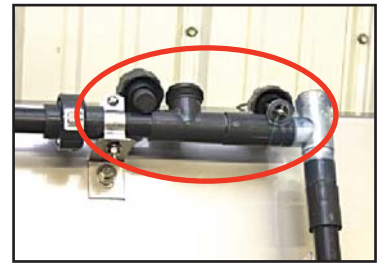

Figure 6 – Probe and Flow Switch
- 2.9 **Before removing the Podium Module from its shipping assembly:** Remove supplied hardware from upper and lower flanges of the Podium Module. Unscrew conductivity probe and flow switch from piping and secure their O-rings. See Figure 6.